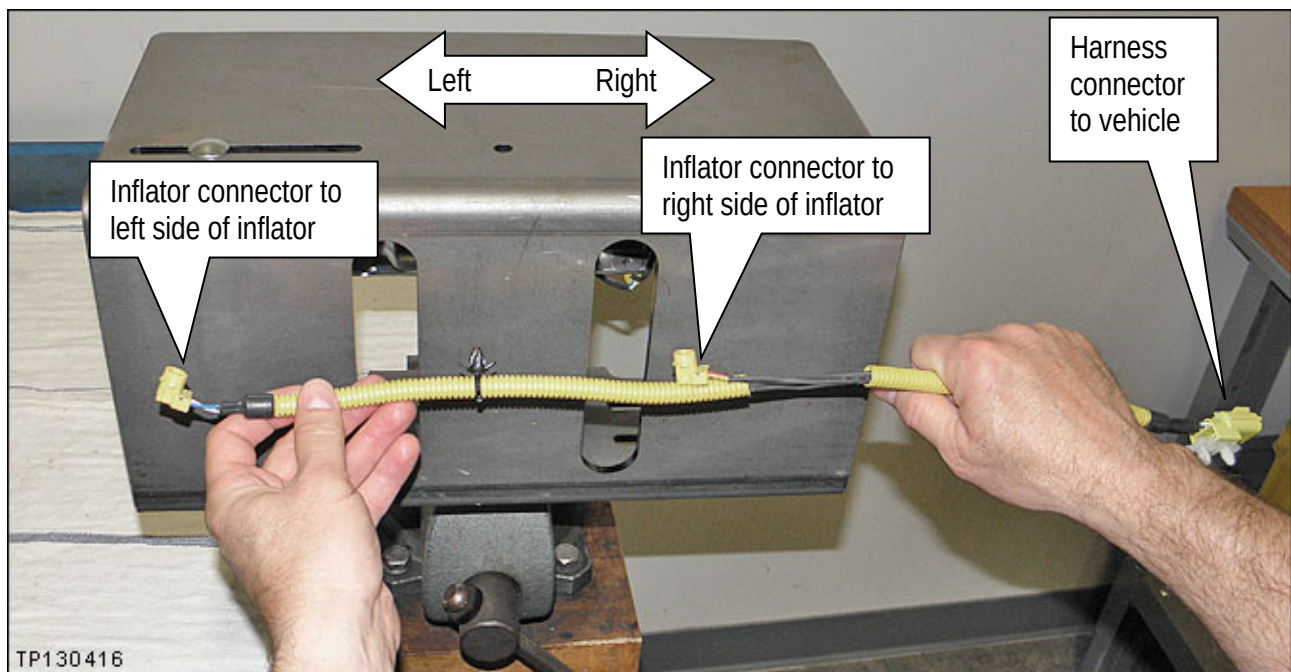

Figure F17
- o Left / Right orientation is as shown in Figure F17.
- Make sure to attach the correct ends (see Figure F17 on the previous page).
- Refer to Figures F17, F18, F19, and F20.